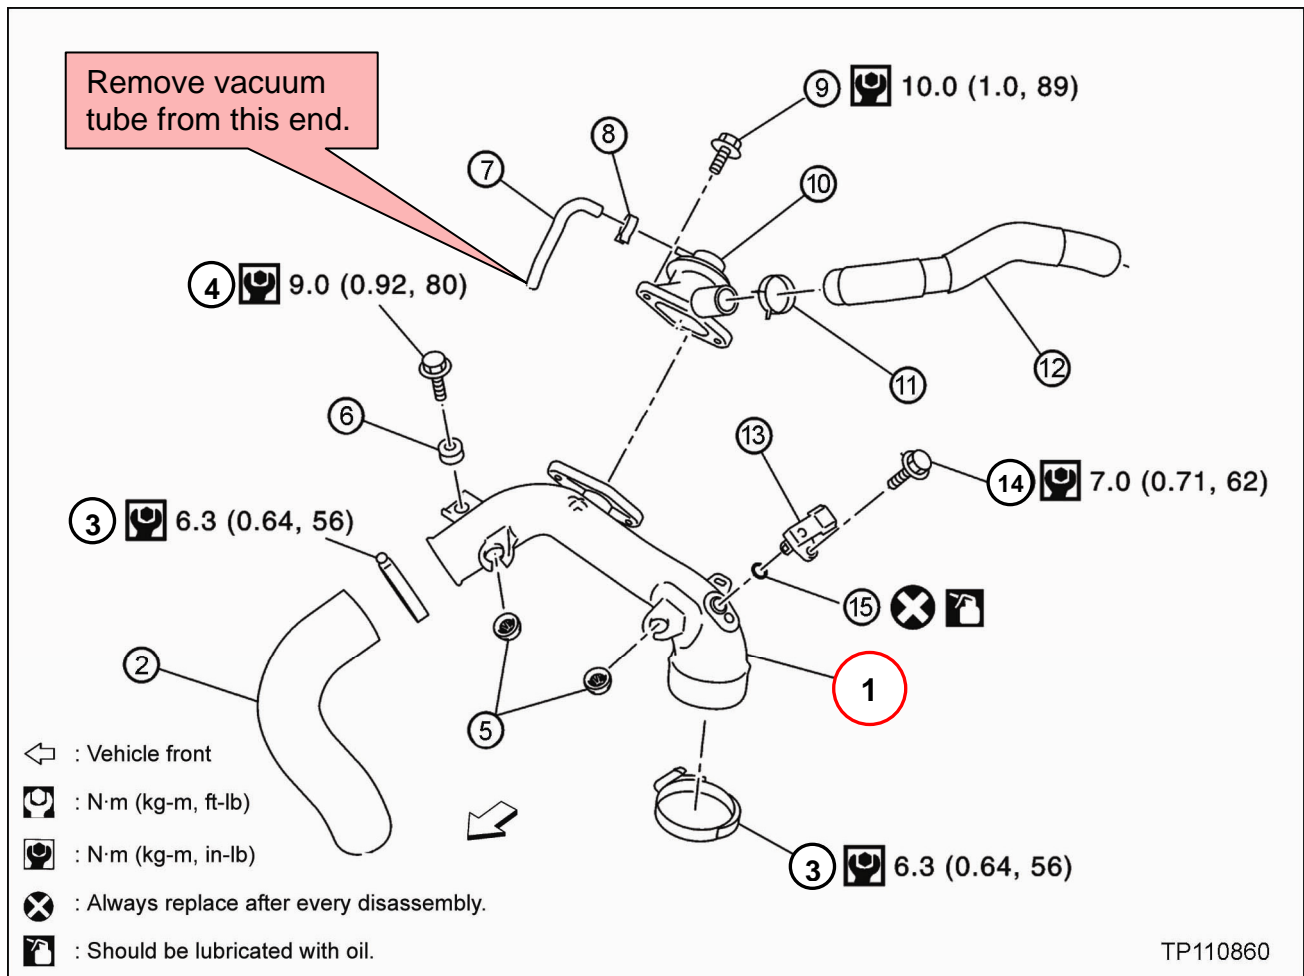

Figure 5
## Replace Air Inlet Tube 1 (#1 in Figure 5)
**NOTE:** Use Figure 5 as a reference while performing steps 1-8 for air inlet tube replacement.
- Make sure to use the correct torque for bolts and clamps (see Figure 5).